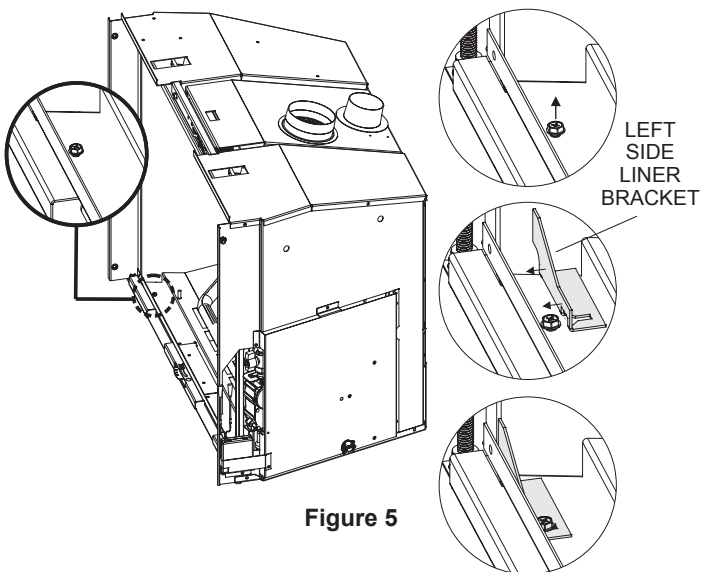

Figure 5
6. Loosen screws as shown in **Figures 5 and 6**.
7. Place side liner brackets as shown in **Figures 5 and 6**. Slide bracket forward until it stops. Tighten screws.